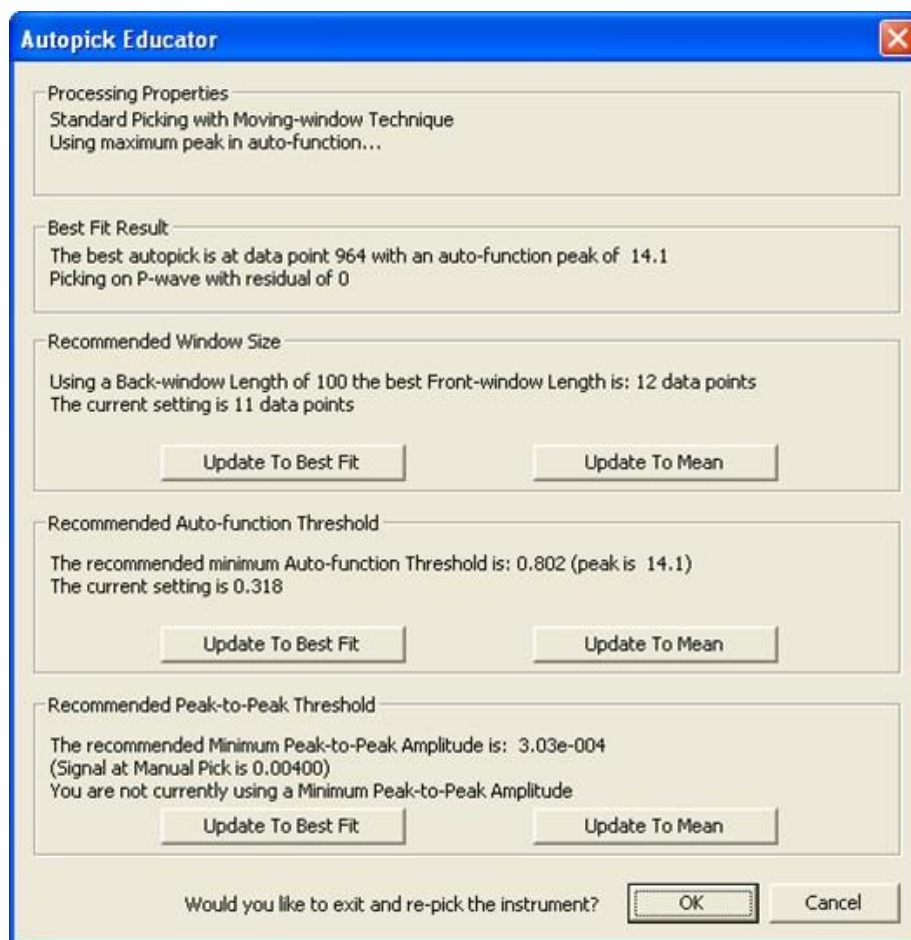

Figure 6-28: The Auto-pick Educator Dialog Box
The Learn P and S-Pick algorithms enable the auto-picking parameters to learn from a user's manual phase picks. This allows a user to optimise the auto-picking parameters by evaluating a set of parameters that provide the best-fit auto-pick to the user's manual pick. A Dialog box is then displayed that allows a user to easily update the settings of the auto-picker with these parameters (Figure 6-28).
- The Autopick Educator Dialog box (Figure 6-28) is displayed to the user. The Dialog box allows the user to easily update the auto-picking parameters from the best-fit values obtained in the algorithm. For each parameter the user has the option to update the auto-picker setting directly (by clicking on Update to Best Fit), or to update it to the mean of the current setting and the calculated best-fit (by clicking on Update to Mean). When the Dialog box is closed the user has the option to re-run the auto-picking algorithm on the waveforms from that instrument.